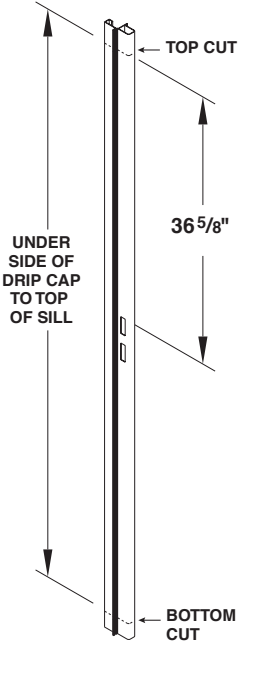

FIGURE 3B-C
a. **TOP CUT:** First, determine which end of the astragal is top and mark it with a piece of tape. Measure the distance from top of door frame to top of slotted opening at the edge of the door frame (Figure 3B). using this measurement, add 1/8". Then measure the new distance from the top of the top slot of the astragal and mark a line. Cut the astragal off.